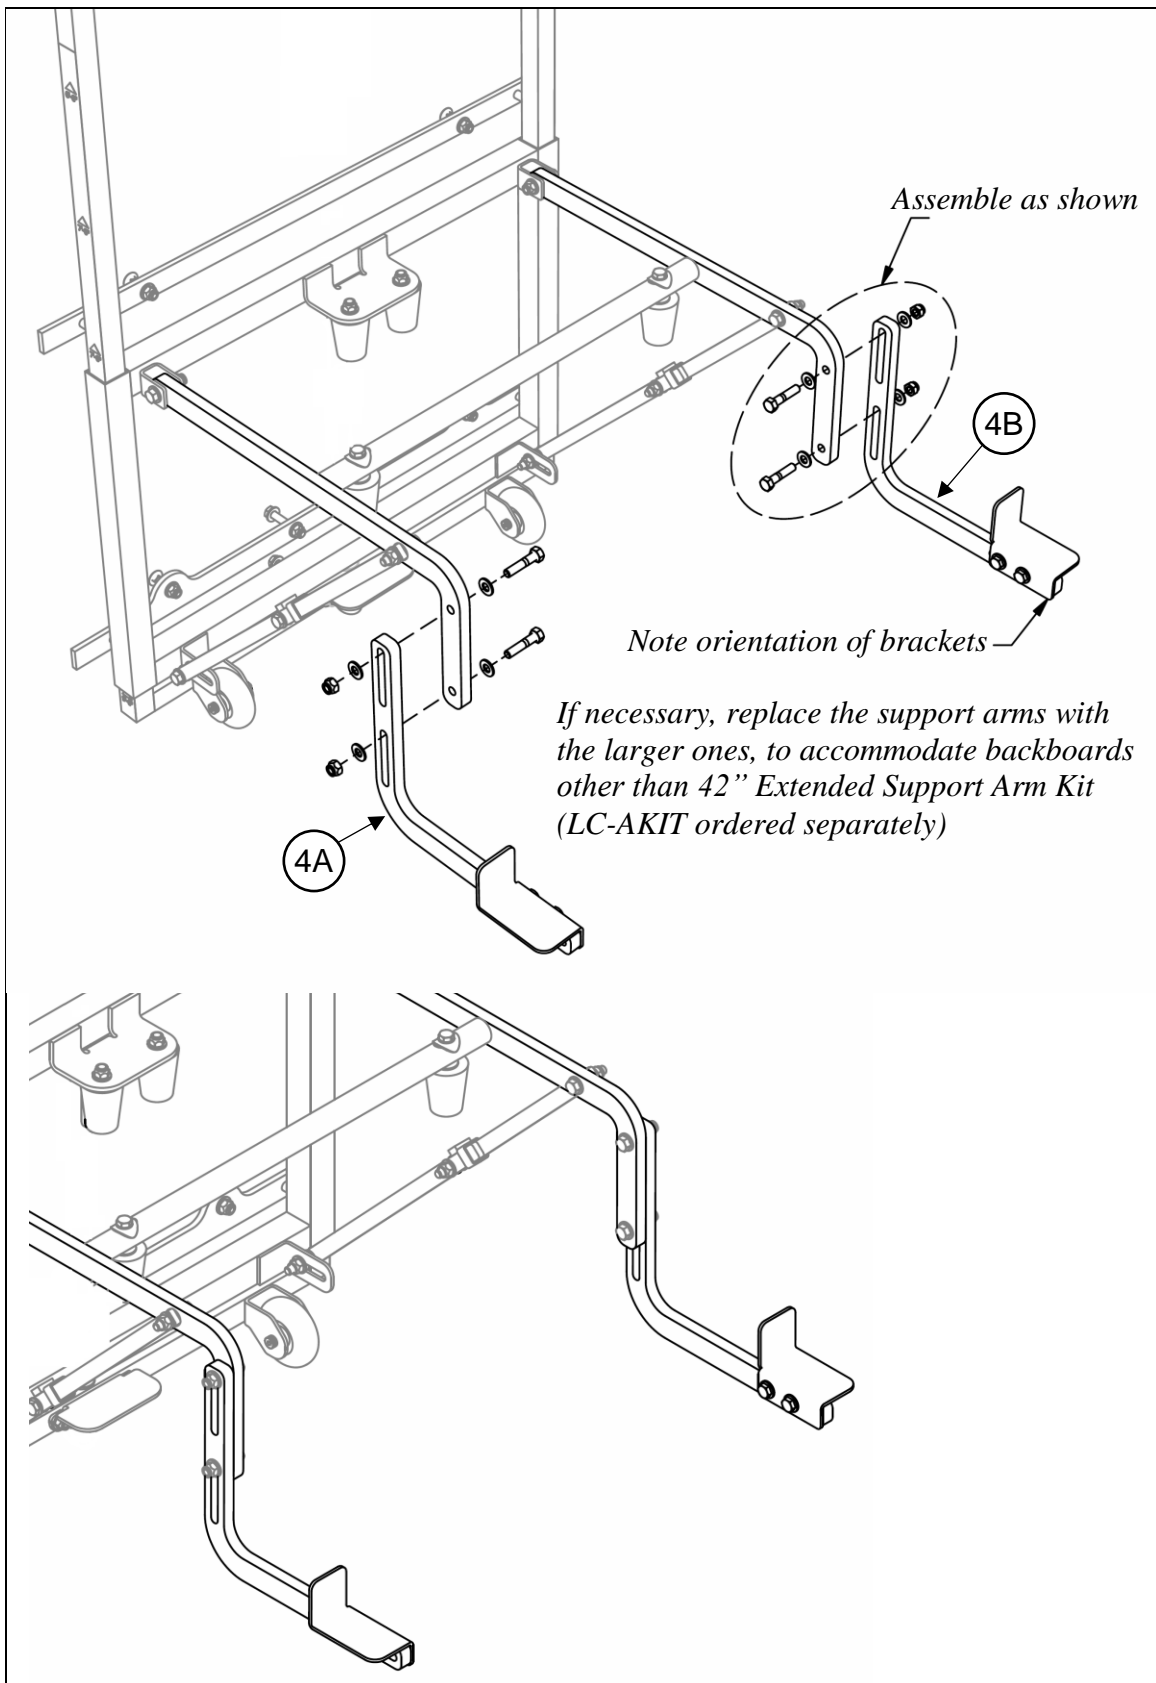
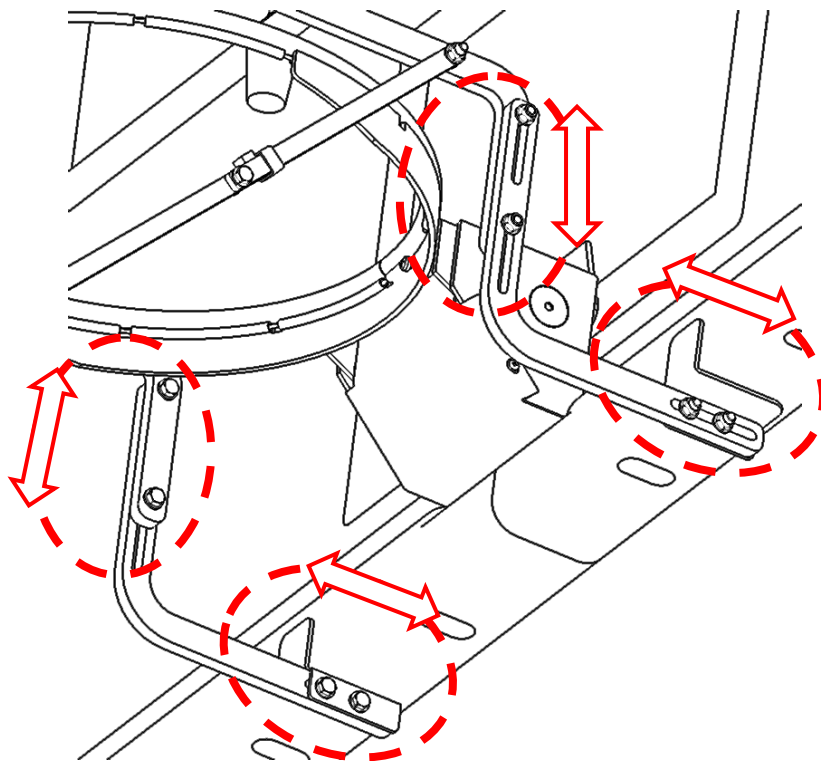

Figure 1 (Typical Support Arms)
Figure 3 (Backboard Adjustment)
- 1) Remove the Little Champ frame from the box. Check that all components and hardware are present. Assemble the rear arms to frame (see Figure 1).
- 3) Adjust the height and depth of the arms so they grab beneath the backboard, while keeping the front of the frame essentially plumb (see Figure 3). *If necessary, replace the support arms with the larger ones, to accommodate backboards other than 42" (see Figure 1).*